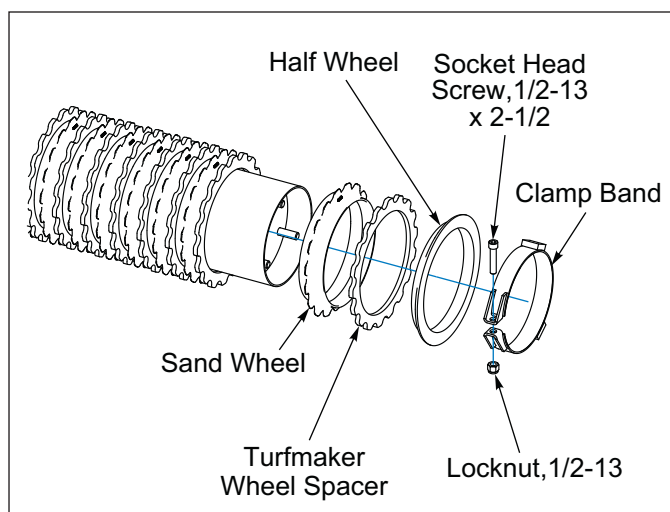

Figure 2-70: Turfmaker Sprockets
1. Position the Wheel Spacer between each Sand Wheel. **See Figure 2-70.**